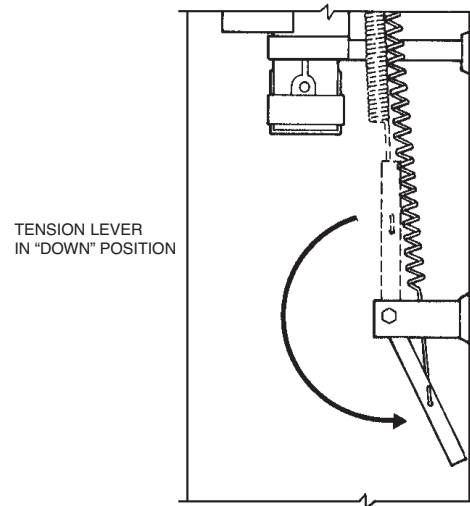

FIGURE 6
11. Make certain that each tank is filled with 1.5 (5.8 L) or 3.0 (11.6 L) gallons of only ANSULEX Low pH Liquid Fire Suppressant. Fill level to be ONLY to the level indicated in the "Installation" section. See Page 5-2.1, Figure 6, for detailed filling tolerances.
- ▶ 21. Lower tension lever to "DOWN" position. See Figure 6.